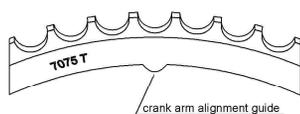

Fig.3
- With the FSA Logos and printed surface facing out, position the inner chainering so that the alignment guide is located behind the crank arm. Use the same installation procedure for the third chainering on a triple crankset. (Fig.3)